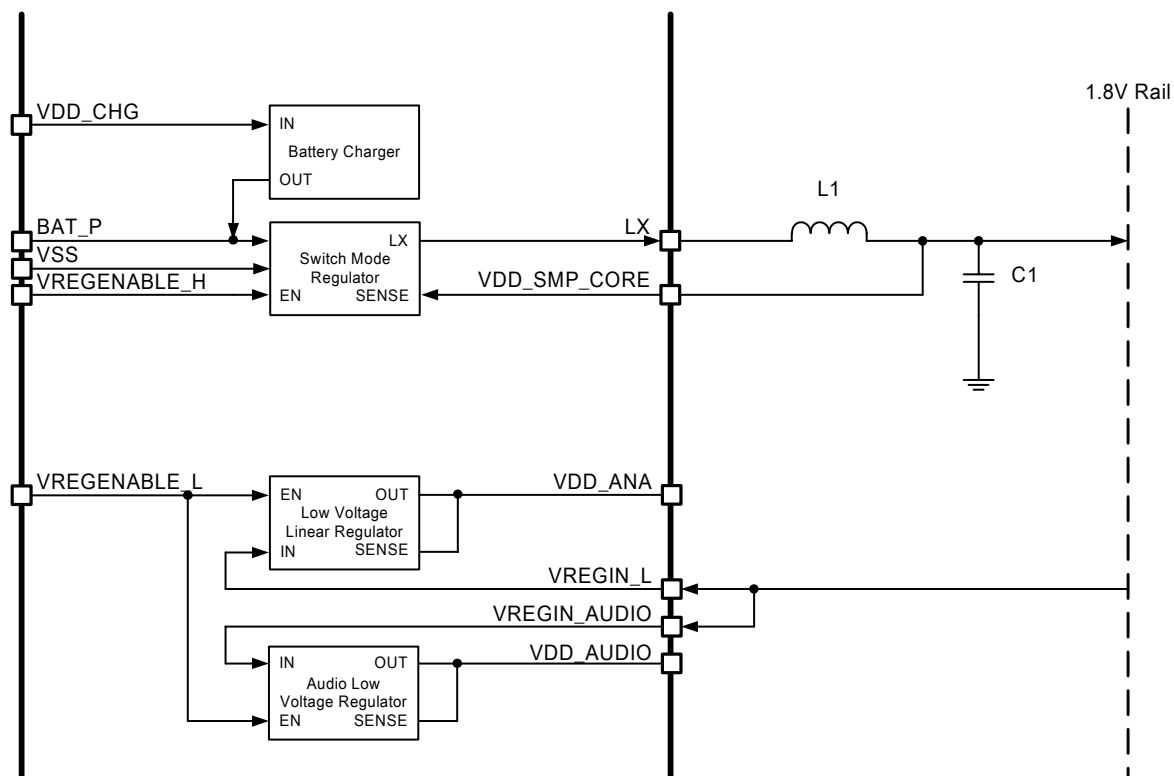

Figure 11.1: Voltage Regulator Configuration
- Powered from the switch-mode regulator and the low-voltage regulators in series, as shown in Figure 11.1